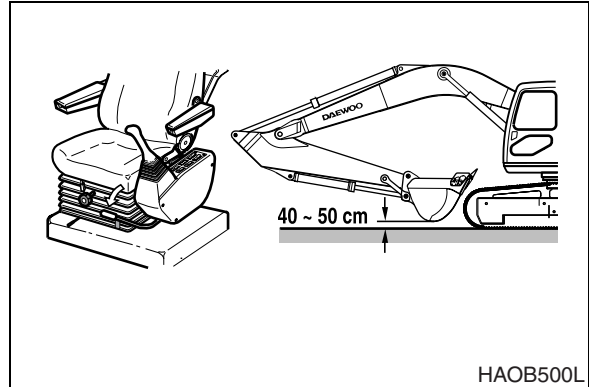

Figure 31
2. Set safety lever on "UNLOCK" position and folding the front, raise it up 40 - 50 cm (16 - 20 in) above ground. See Figure 31.